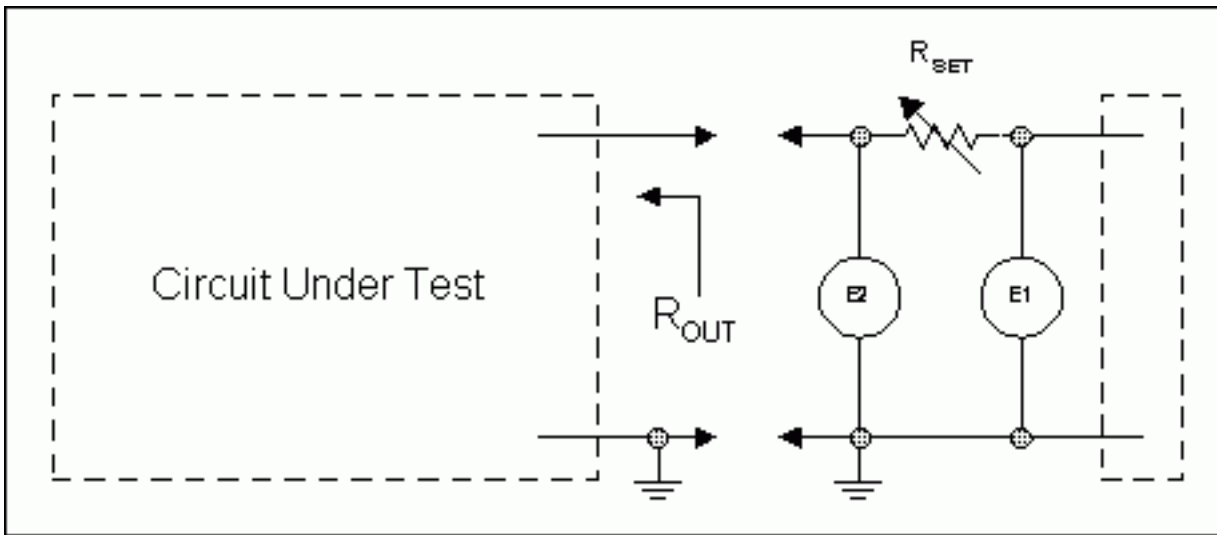

Figure 3. Measure output impedance.
There are some simple ways to measure the impedance modulus looking back into the output terminals of the circuit. The measurement of the output impedance of the circuit under test is shown in **Figure 3**. The input to the circuit under test is grounded.
**Table 2. Voltage Difference Across RSET = 6.2kΩ (Fig3) 0dB = 486mVRMS**